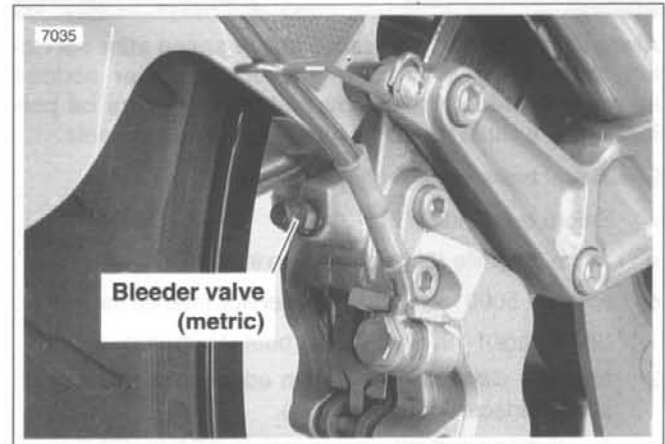

Figure 1-17. Front Brake Bleeder Valve
- a. Front brake bleeder valve-see Figure 1-17.